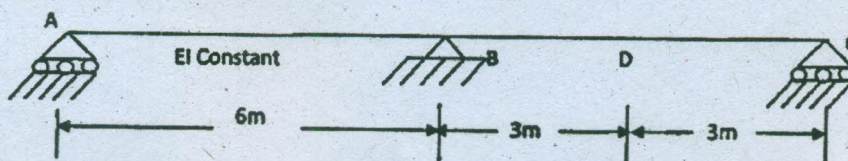

Fig. 12(b)
- (b) Determine the influence line for the shear force at D, the middle point of span BC, of a continuous beam shown in Fig. 12(b). Compute the ordinates at  $1 \text{ m}$  interval.